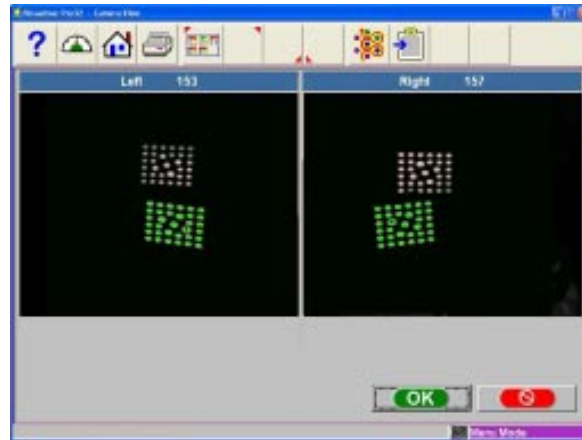

Figure 13
2. Navigate to the “Camera View” screen under the Maintenance Tab, see Figure 13. Place the front and rear targets on the alignment lift as are oriented during an actual alignment.